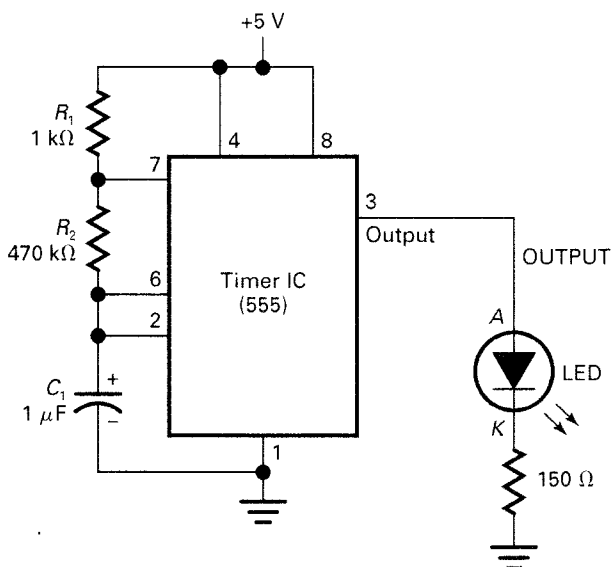
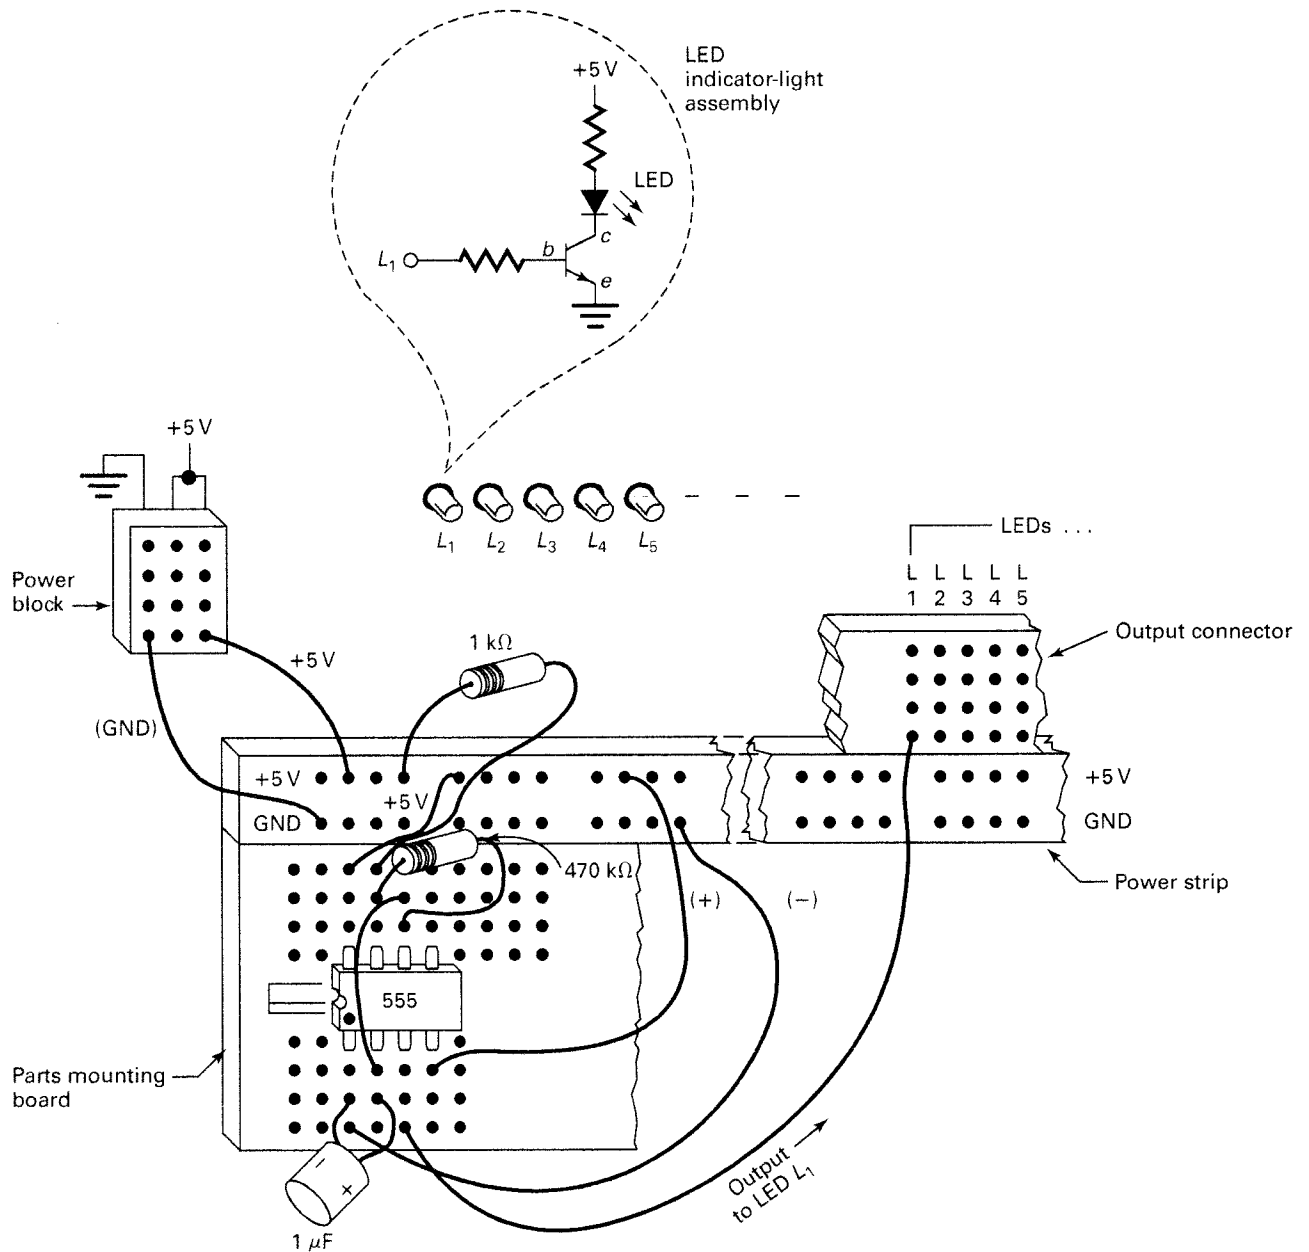

Fig. 1-2 Schematic diagram of a free-running clock circuit.
Fig. 1-5 Wiring clock circuit on digital trainer. (Trainer is DT-1000 by Dynalogic Concepts.)
You will wire and operate a free-running clock circuit. This circuit will generate a TTL-level digital signal. The 555 timer IC is used to generate the continuous string of square-wave pulses. The frequency is low (1 to 2 pulses per second), and therefore the pulses may be directly observed on a simple LED output indicator. A schematic diagram for the astable multivibrator (free-running clock) circuit is shown in Fig. 1-2.
A very simple LED output indicator light assembly is shown connected to the free-running clock circuit in Fig. 1-2. A HIGH logic level is indicated when the LED lights. A LOW logic level is indicated when the LED does not light. Although very simple, the LED output indicator in Fig. 1-2 does have the disadvantage of loading the output of the IC more than recommended.
5. Power OFF. Refer to the schematic diagram in Fig. 1-2. Wire the entire free-running clock circuit. For inexperienced students, a typical wiring layout for the clock circuit is detailed in Fig. 1-5.
6. Refer to Fig. 1-5.
- a. *Output connector.* A solderless breadboard has been added at the upper right in Fig. 1-5 as a convenient method of connecting to prewired LED indicator-light assemblies. Each vertical group of four holes is connected. In this example, output LED indicator-light assembly L_1 is being used.
- b. *Output LED indicator-light assembly.* A schematic of a typical output LED indicator-light assembly using a driver transistor is shown near the top in Fig. 1-5.
| 1. The clock in Fig. 1-2 is sometimes called a(n) _____ multivibrator. | 1. _____ |
| 5. Refer to Fig. 1-2. Decreasing the value of the resistor between pins 6 and 7 of the IC _____ (decreases, increases) the output frequency of the digital clock. | 5. _____ |
| 6. Refer to Fig. 1-2. Increasing the value of capacitor C_1 will _____ (decrease, increase) the output frequency of the digital clock. | 6. _____ |
| 7. Refer to Fig. 1-2. The 555 timer integrated circuit (IC) is commonly considered an analog device. The output from the clock circuit using the 555 timer IC is _____ (analog, digital) in nature. | 7. _____ |
| 8. Refer to Fig. 1-2. If the output (pin 3) of the 555 timer IC goes _____ (HIGH, LOW), the LED does not light. | 8. _____ |